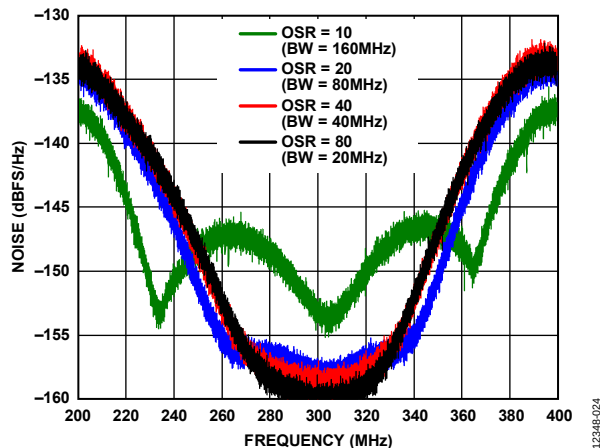

Figure 72. NSD vs. Oversampling Ratio ( $F_{IF} = 300$  MHz,  $F_{ADC} = 3.2$  GHz,  $L_{EXT} = 19$  nH)
- Operating at reduced oversampling ratio (oversampling ratio < 20) causes the quantization noise contribution to become more significant, causing humps to appear in the NSD. Bumpiness in the NSD occurs because the resonant frequencies associated RESON2 and RESON3 are further offset from RESON1 to accommodate the increase in BW; therefore, resulting in less overall loop gain to suppress this increasingly dominant noise source. The effect of different oversampling ratios on the NSD is shown in Figure 72.